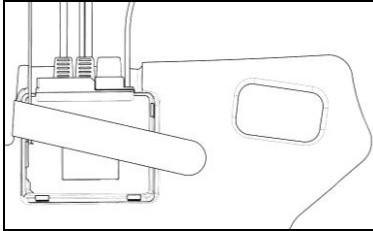

Fig. 28
- Position the e-box inside its housing in the left cheek pad (Fig. 28).